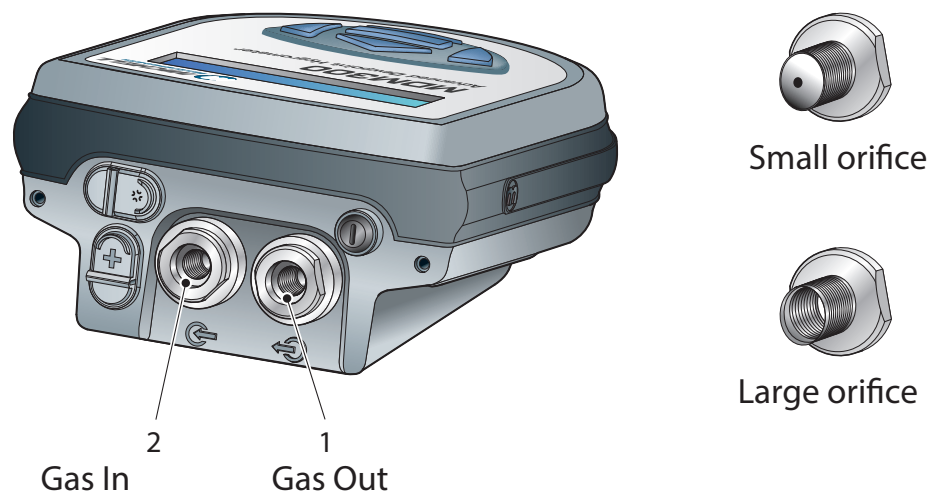

Figure 5 Gas Port Adaptors
(three provided - two fitted to the instrument - see *Figure 5*)
NOTE: On delivery the two large orifice adaptors are fitted into the instrument's gas ports (1 and 2) as shown in *Figure 5*. One small orifice adaptor is provided as a loose spare in the accessory pack (see Section 2.5).
Sample gas connections are made via the Gas In (2) and Gas Out (1) ports located on the rear of the instrument as shown in *Figure 5*.